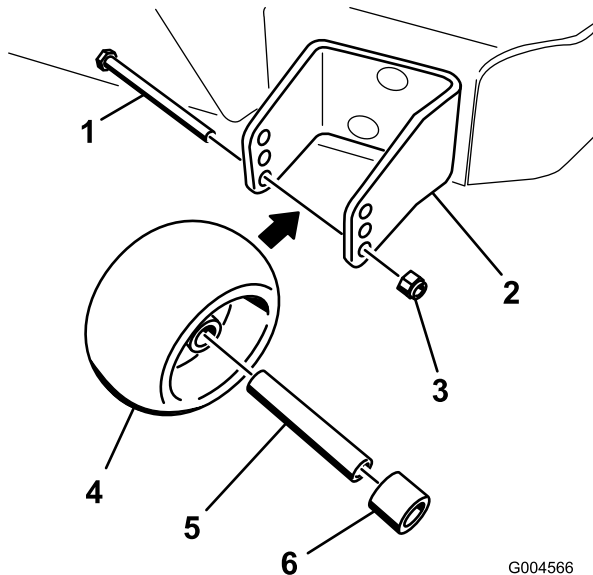

Figure 17
3. After adjusting the height-of-cut, adjust the rollers by removing the flange nut, bushing, spacer, and bolt (Figure 17).